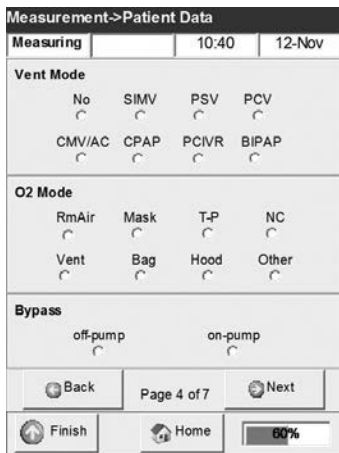

Fig. 5-17 Edit patient data (4)
13. Press **Next** for the following information (Fig. 5-17):